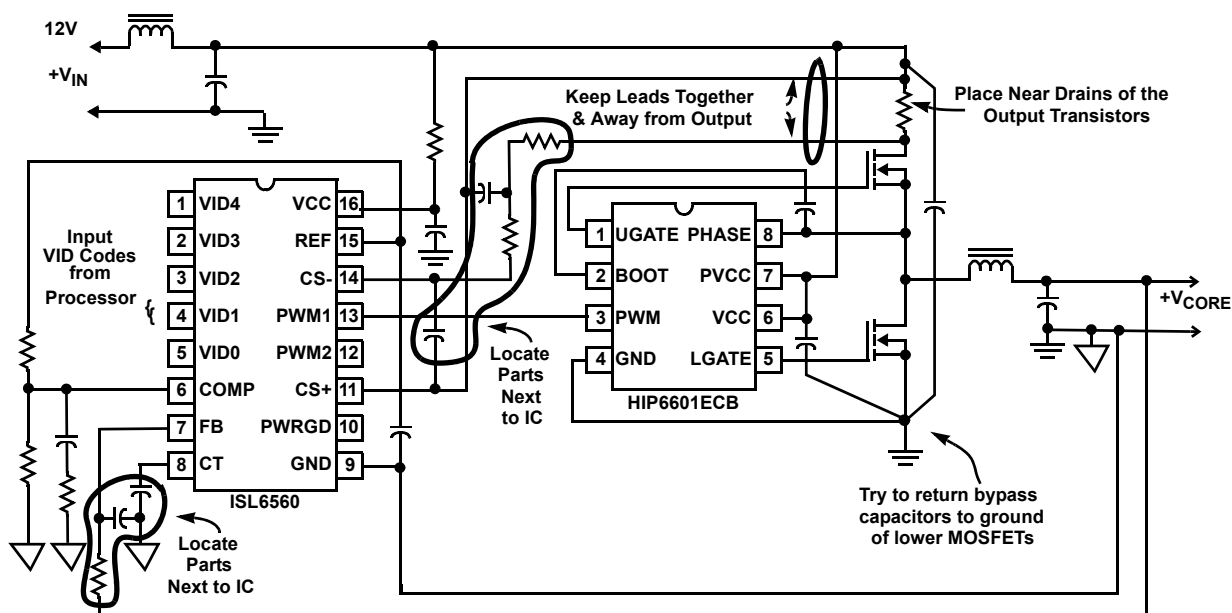

FIGURE 11. SCHEMATIC DIAGRAM SHOWING ONLY ONE CHANNEL OF 'IDEAL' COMPONENT PLACEMENT
Figure 11 shows a simplified diagram of the critical areas of a PC board layout. This diagram and the following material represent goals to work towards during the layout phase. Goals will be compromised during the layout process due to
1. To obtain optimum regulation use the Kelvin connection for the input voltage sample as shown in Figure 11. The ground connection, Pin 9 of the ISL6560 should be connected to the system ground at the load.
2. The two voltage sampling lines described in item 1 above should also be routed away from any high-current or high- pulse voltages such as the phase lines or pads. Doing this will reduce the possibility of coupling undesired pulses into the feedback signal and either modifying the output of the error amplifier or, if of sufficient amplitude, spuriously triggering the current comparator by readjusting the threshold voltage.